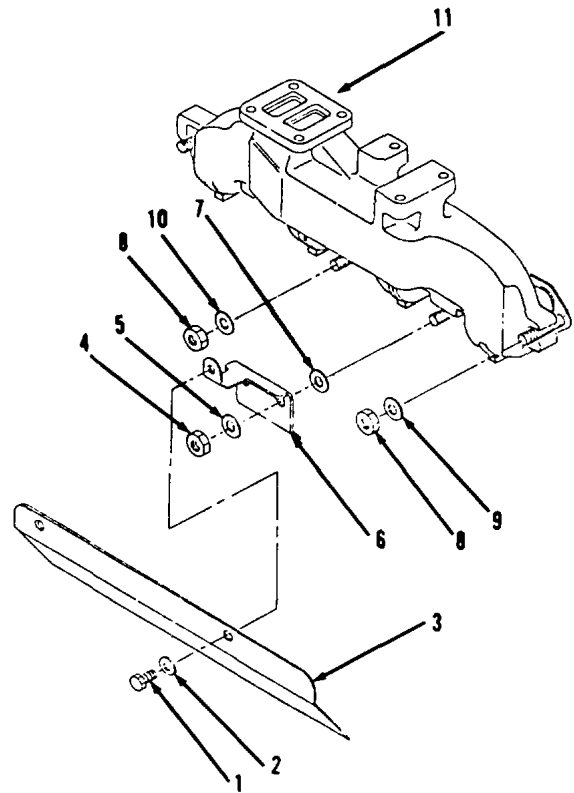
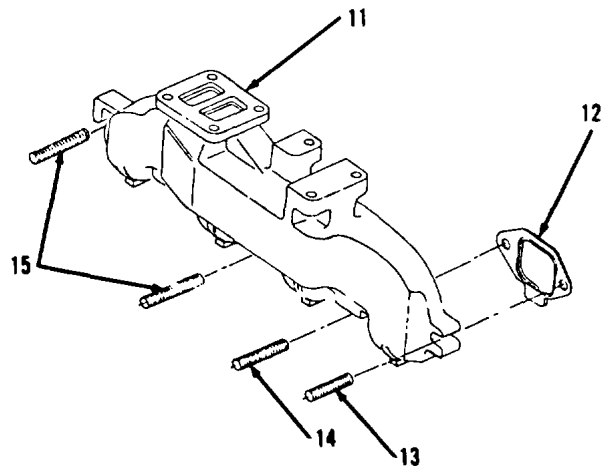

Figure 3-79.
Figure 3-80.
1. Remove two bolts (1), washers (2) and shield (3, Figure 3-79) from top, right side of engine.
2. Remove four nuts (4), washers (5), two brackets (6) and four washers (7).
3. Remove four nuts (8), washer (9) and three washers (10).
4. Remove manifold (11) and four gaskets (12, Figure 3-80). Discard four gaskets (12). Remove all gasket material from mounting surfaces.
1. Install three studs (15), four studs (14) and stud (13, Figure 3-80) to right side of cylinder head, if removed. Apply anti-seize compound to half of studs (15, 14 and 13) being installed in cylinder head. Tighten studs (15, 14 and 13) to 20 ft-lb torque.
2. Install four new gaskets (12) on studs (15, 14 and 13) in top, right side of engine.
3. Install manifold (11).